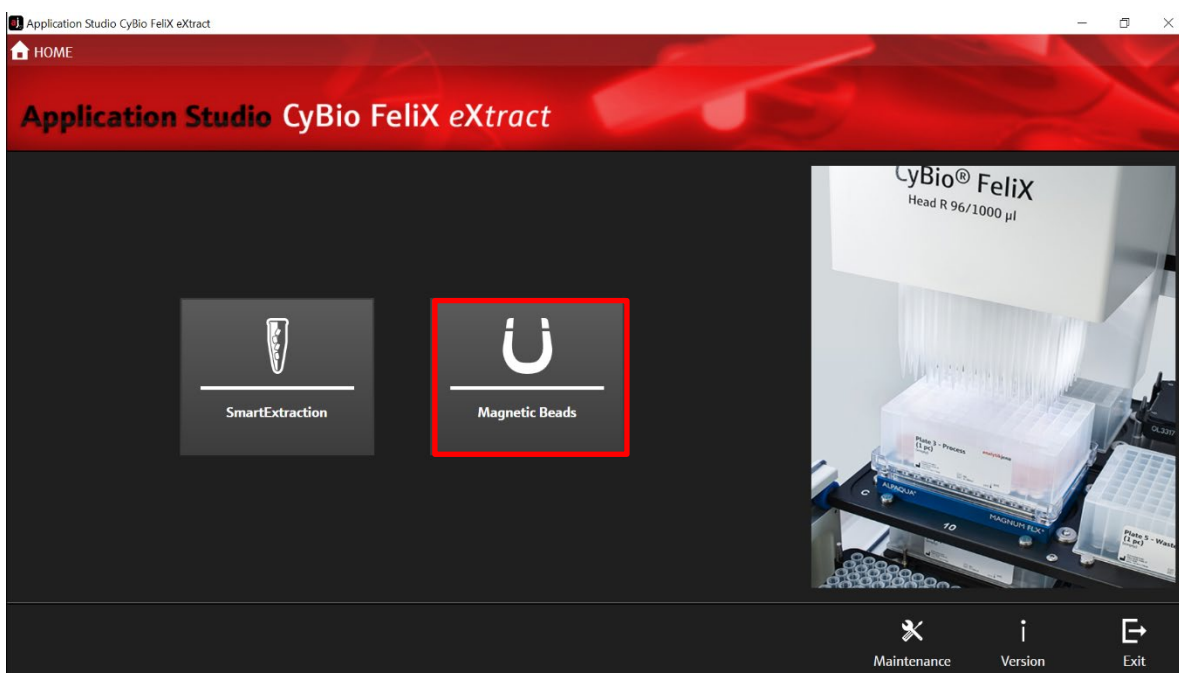

Figure 4: Home screen of the Application Studio Felix *eXtract*.
15. Select “Magnetic Beads” (→see Figure 4).